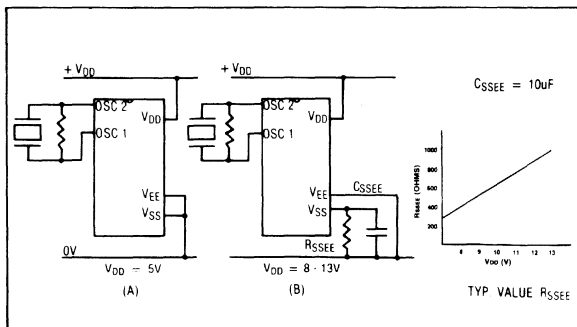

Fig.5 Power supply connection options
The MV8862(3) may be operated from either a 5V or 8 to 13V supply by use of the internal zener reference. The relevant connection diagrams are shown in Fig.5.